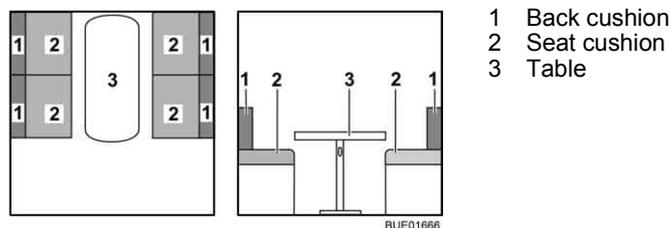

Fig. 93 Prior to conversion
- Lay all back cushions (Fig. 93,1) aside.
- Convert the table (Fig. 93,3) to a bed foundation (see section 6.12).